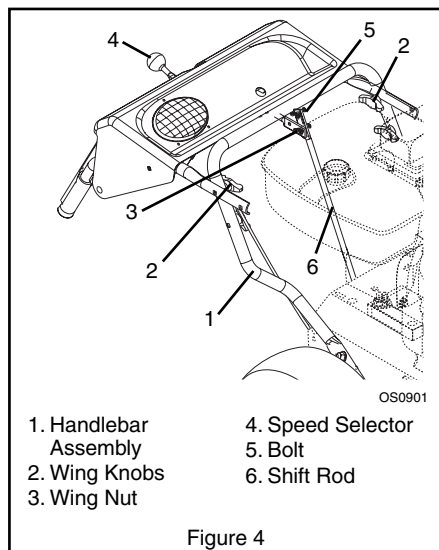

Figure 4
1. Remove lower wing knobs on handlebar assembly (Figure 4).